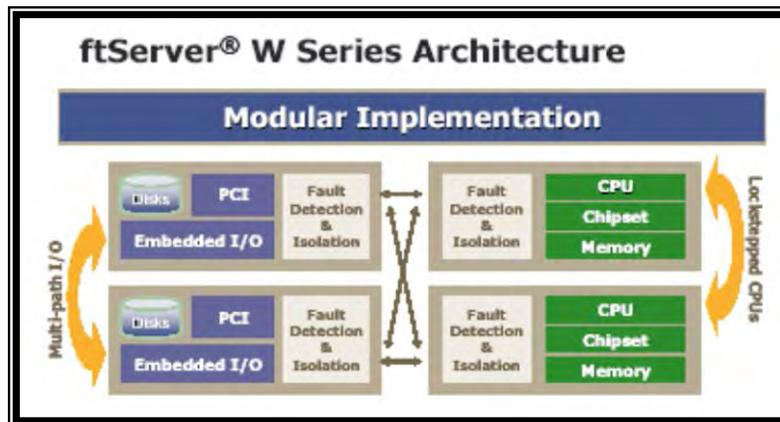

Figure 4.1 – Stratus ftServer W Series Architecture
In addition to using DataWorX32 Professional redundancy support, there are a number of options available for improving the reliability and fault tolerance of the GENESIS32™ and BizViz™ products of ICONICS. One option is to use Fault Tolerant Servers. A Fault Tolerant (FT) server is a “single box” replacement for a Workstation or Server that is designed for 99.999% or greater uptime. Such products typically use replicated, fault-tolerant hardware components and “Lockstep” technology (meaning transactions run concurrently on both halves of the server), so that when a failure does occur there is no downtime or transaction loss. Replicated hardware components typically include the CPU, Memory, Hard drives, and Power Supplies. These systems also include specialized Fault Detection and Isolation hardware and software and so called “hardened” device drivers that are claimed to have higher reliability than the standard drivers provided by Microsoft. The specialized fault detection software not only identifies the failed component(s), but can automatically start the ordering process for replacement parts. Figure 4.1 below shows the architecture for the ftServer W Series Fault Tolerant server by Stratus Technologies, a market leader in the Fault Tolerant server industry